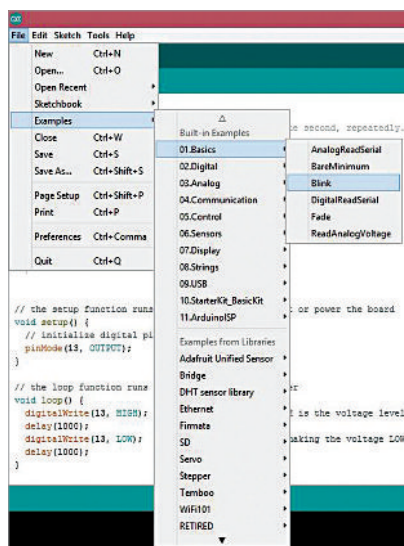

Fig. 1: Blink example from Arduino IDE
8. Open the source code/sketch, compile it and upload the code to Arduino board by clicking the Upload button. If you do not have the sketch ready, the easiest way to start with the Arduino programming is to use the 'Blink' sketch from the Examples in Arduino. You can access Blink source code from File→Examples→Basics option, as shown in Fig. 1.